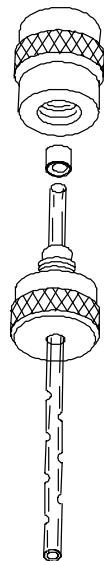

Figure 240-24 Installing the ferrule onto the new liner
5. Place a Graphpack-3D ferrule over the end of the liner with the recessed end towards the compression fitting. See Figure 240-24. Slide the ferrule towards the fitting until about 2 mm of liner is exposed beyond the ferrule.